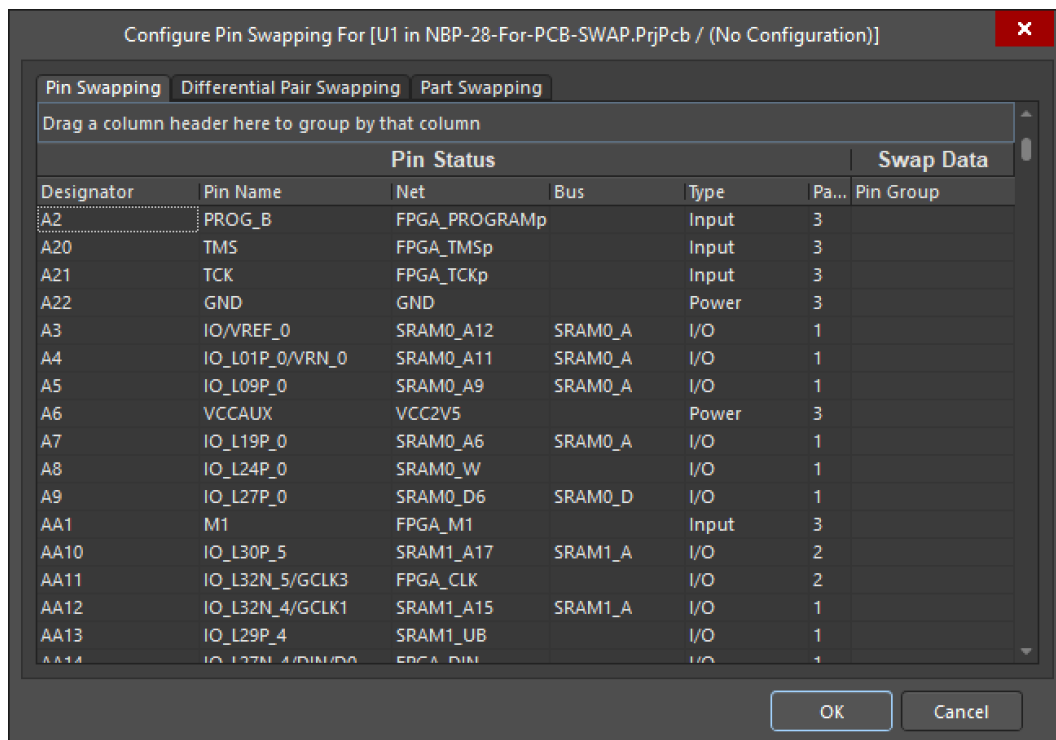

Figure 5. *Pin Swapping Configuration*
16. The *Configure Pin Swapping* information for U1 appears, as shown in Figure 5. Select the *Pin Swapping* tab located in the upper left corner.